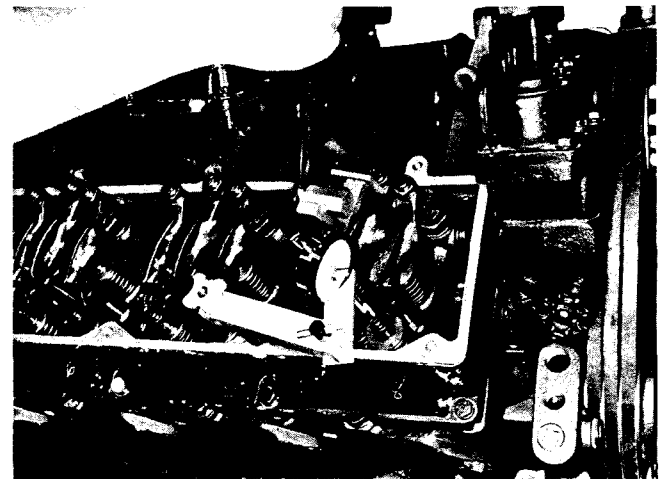

Fig. 2-50, (V514128). Bottoming injector plunger in cup
3. Using ST-1251 Actuator, Fig. 2-50, bar the lever forward until injector plunger is bottomed in cup to squeeze oil film from between plunger and cup.
4. Allow the injector plunger to rise and then bottom again and set indicator at zero (0). We recommend lever be